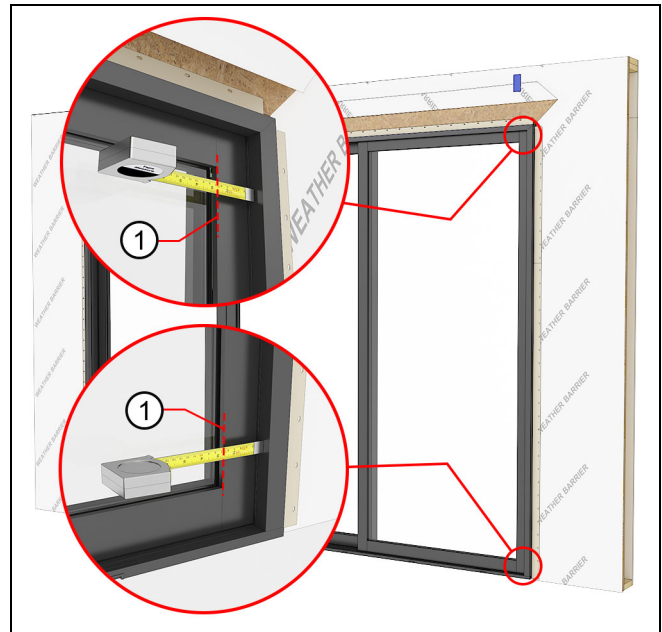

Figure 104
11. Measure from the jamb to the edge of the daylight opening. This should be about 2 5/8". See Figure 104.